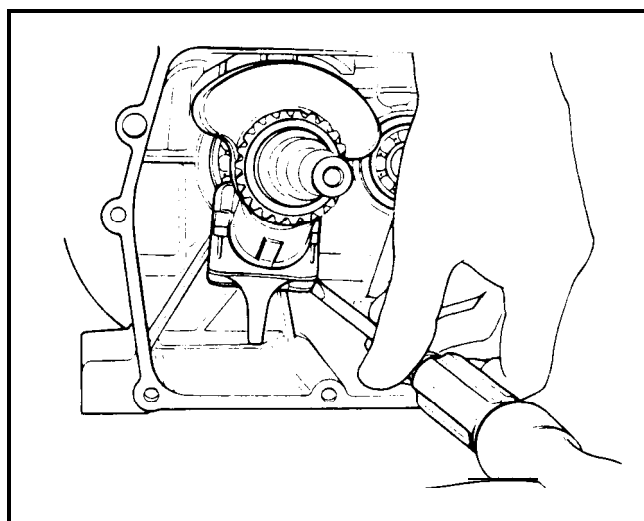

Figure 102
10. Bend the tabs on the locking plate to prevent loosening of the rod bolts. See Figure 102.